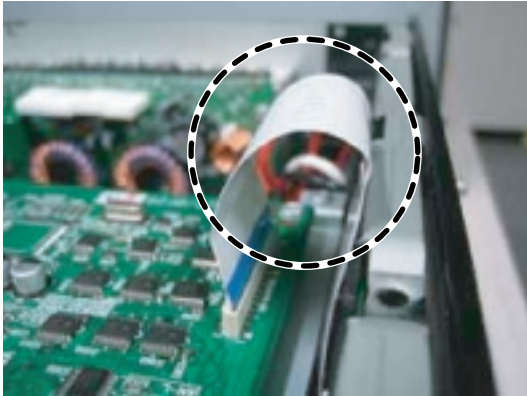

Fig. 23
- o) Bend the flat cable to avoid touching the top cover. (Fig. 23, 24)